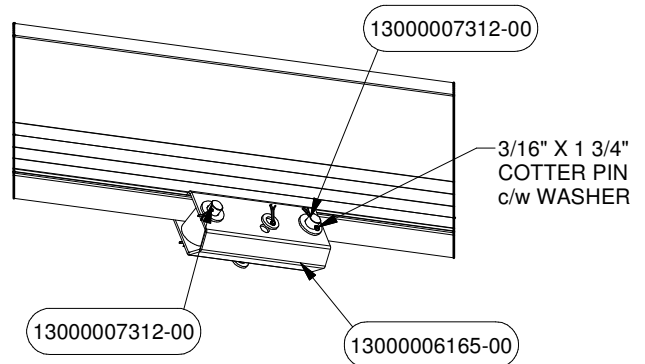

FIGURE 4
10. Attach the Trolley PN# 6165 to the Tube Track PN# 5590 and Item 5 using Pins PN# 7312 and 7314 c/w Cotter Pins and Washers. Fasteners and Pins can be found in Bolt Bag PN# 6701. See Figure 4 for details.